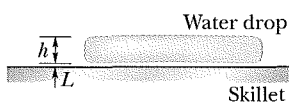

Fig. 18-47 Problem 62.
••62  *Leidenfrost effect.* A water drop that is slung onto a skillet with a temperature between 100°C and about 200°C will last about 1 s. However, if the skillet is much hotter, the drop can last several minutes, an effect named after an early investigator. The longer lifetime is due to the support of a thin layer of air and water vapor that separates the drop from the metal (by distance L in Fig. 18-47). Let $L = 0.100 \text{ mm}$, and assume that the drop is flat with height $h = 1.50 \text{ mm}$ and bottom face area $A = 4.00 \times 10^{-6} \text{ m}^2$. Also assume that the skillet has a constant temperature $T_s = 300^\circ\text{C}$ and the drop has a temperature of 100°C . Water has density $\rho = 1000 \text{ kg/m}^3$, and the supporting layer has thermal conductivity $k = 0.026 \text{ W/m} \cdot \text{K}$. (a) At what rate is energy conducted from the skillet to the drop through the drop's bottom surface? (b) If conduction is the primary way energy moves from the skillet to the drop, how long will the drop last?